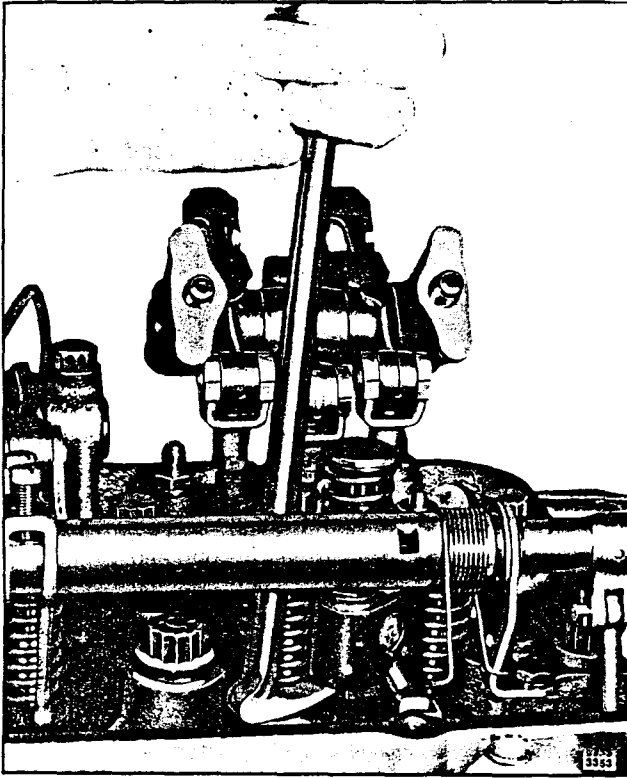

Fig. 3 - Removing Injector from Cylinder Head
8. Free the injector from its seat and lift it from the cylinder head (Fig. 3).